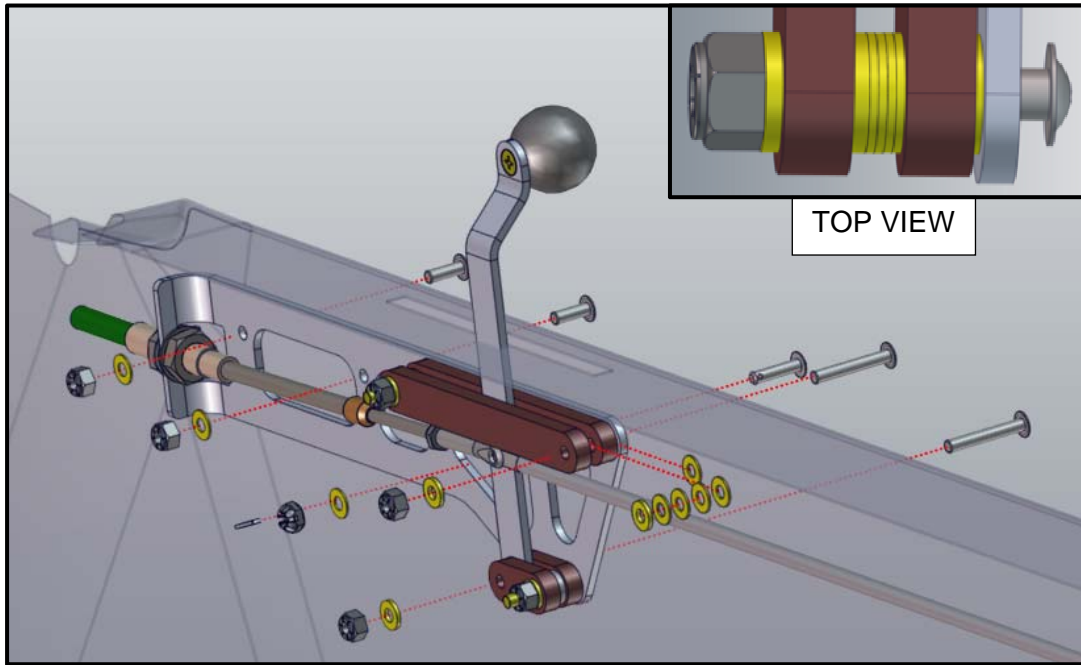

FIGURE 4 – Throttle Linkage Rod and Hardware Removal
- j. Remove four bolts securing the pilot's throttle assembly from the left forward panel. There are multiple spacers on each bolt, use care to ensure hardware is not dropped (see Figure 4).